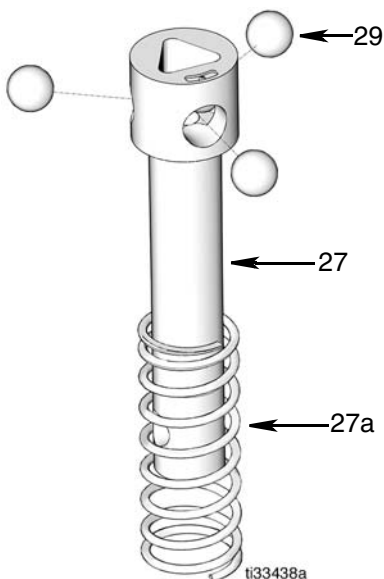

FIG. 26
NOTE: Be careful when removing the trip rod assembly (FIG. 26). Cover the balls with your fingers or a rag to prevent them from falling out.
9. Insert balls (29) in trip rod (27) (FIG. 26).
10. Slide spring (27a) over trip rod (27) (FIG. 26).